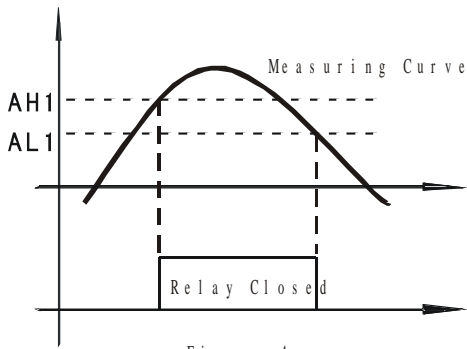

Figure 4
- b) Set $AH1>AL1$: Normally used for upper limit alarm trigger. See Figure 4.